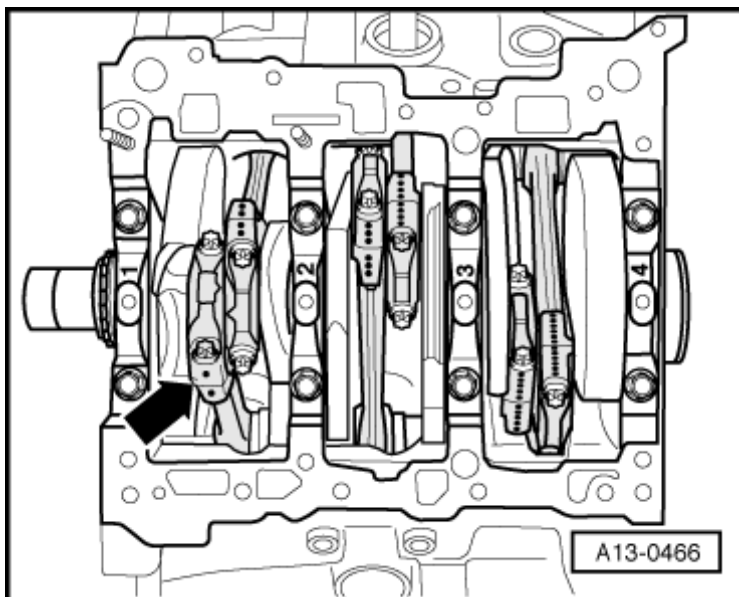

Fig. 11: Marking Connecting Rod
- Use color to identify the cylinder and connecting rod to which it belongs, refer to **Fig. 11**
- Use color to identify the cylinder and connecting rod bearing cap to which it belongs, refer to **Fig. 11**